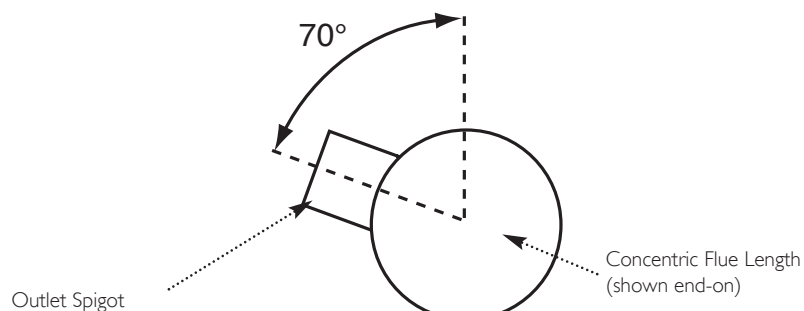

Fig. 21s
23. When under balconies or projections it is permissible to rotate the concentric flue length up to 70°, clockwise or anti-clockwise (Fig. 21s), if there is insufficient space to connect vertically.